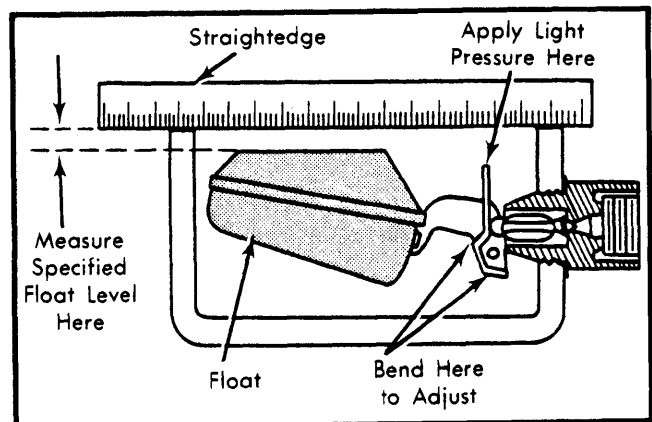

Fig. 1 Adjusting Float Level
1) Remove air horn. Hold float lip gently against needle. See Fig. 1.